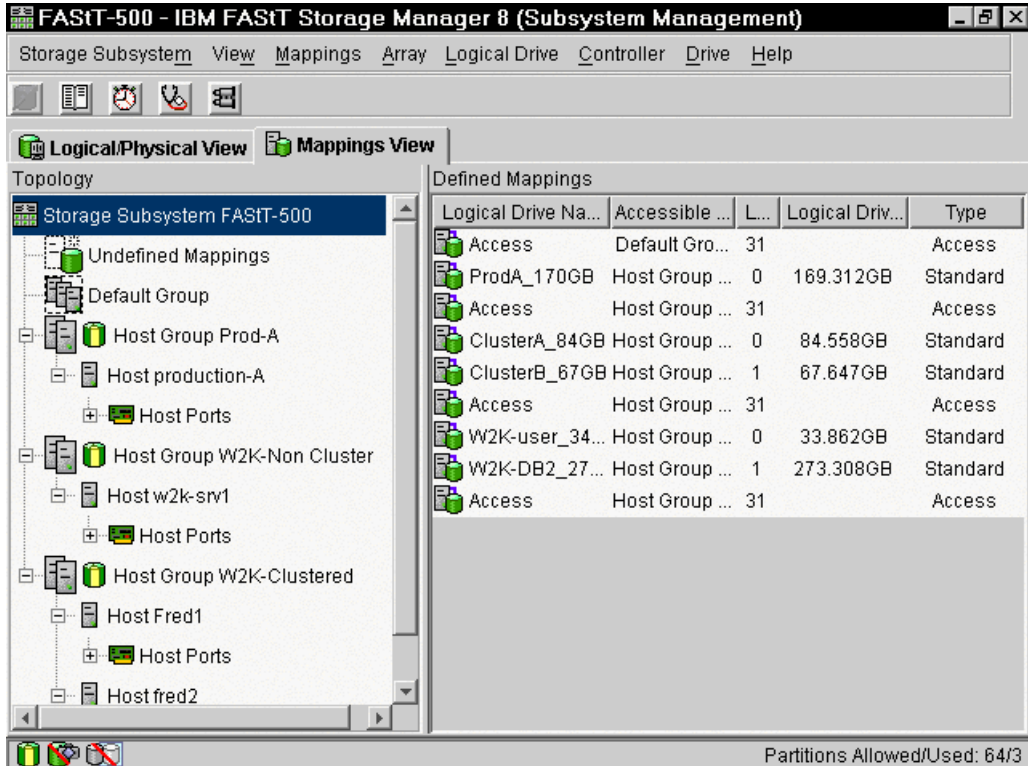

Figure 7-18 Mappings View after the update
- Click the **Mappings View** tab and see if the LUN mappings stayed the same (Figure 7-18).